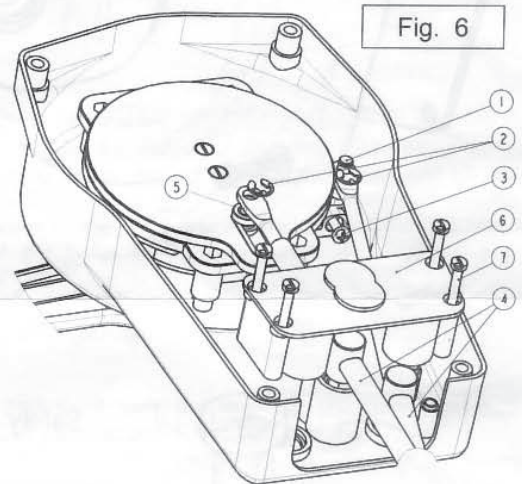

Fig. 6
1. Insert the reverser stud (1) in the control cable rod eyelet (see Fig. 6) and fix it with the stop-ring (2). The cable shall be positioned in the "E" or "F" seat (see Fig. 3), according to the direction of installation of the box (see Fig. 7). Insert the reverser stud in the slot (see Fig. 6) and place it in position "C" (inward) or "D" (outward) depending on the necessary stroke (see Fig. 7). Fasten the stud with one M4x18 screw (3).
1. Insert the cable in the throttle stud (5) and fix it with the stop-ring (2) (see Fig. 6). In case of acceleration by traction, the cable shall be positioned in "A", while in case of acceleration by compression, the cable shall be positioned in "B".
2. Insert the cable lock (6), making sure that the cables barrels are properly positioned in their seats. Fix the cable lock with n°. 4 M4x40 screws (7) (see Fig. 6)